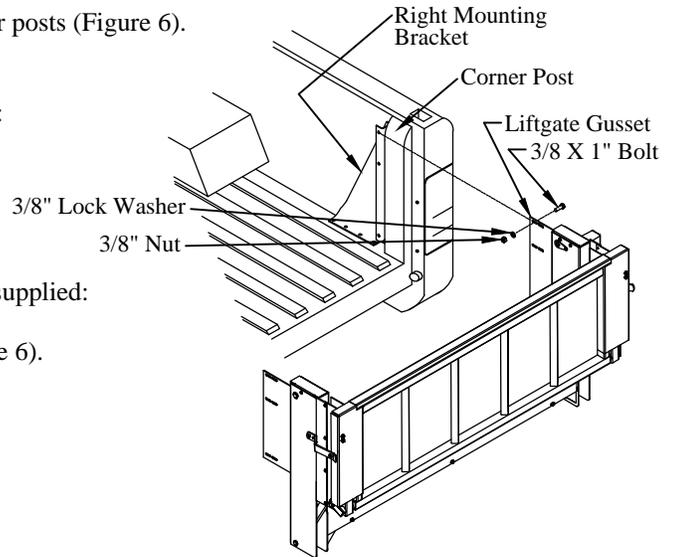

Figure 6: Mounting bracket and liftgate.
1. **Position** the mounting brackets into the truck bed in front of the corner posts (Figure 6).
- (3) 3/8"x1" hex head bolts on the bracket-side (Figure 6).
- (3) 3/8" lock washers, and (3) 3/8" nuts on the gusset-side (Figure 6).
7. **Drill** two (2) 3/8" holes into the truck bed floor using two holes in the bracket as a guide.